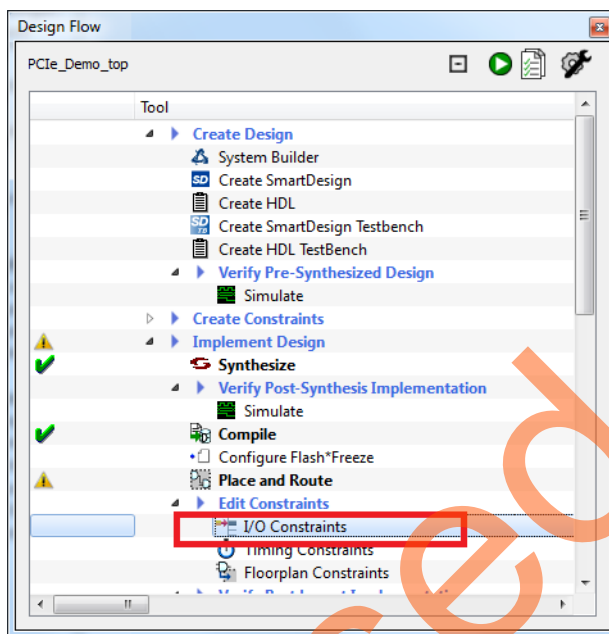

Figure 16 • I/O Constraints
1. Double-click **I/O Constraints** in the **Design Flow** window as shown in Figure 16. The **I/O Editor** window is displayed after completing **Synthesize** and **Compile**.